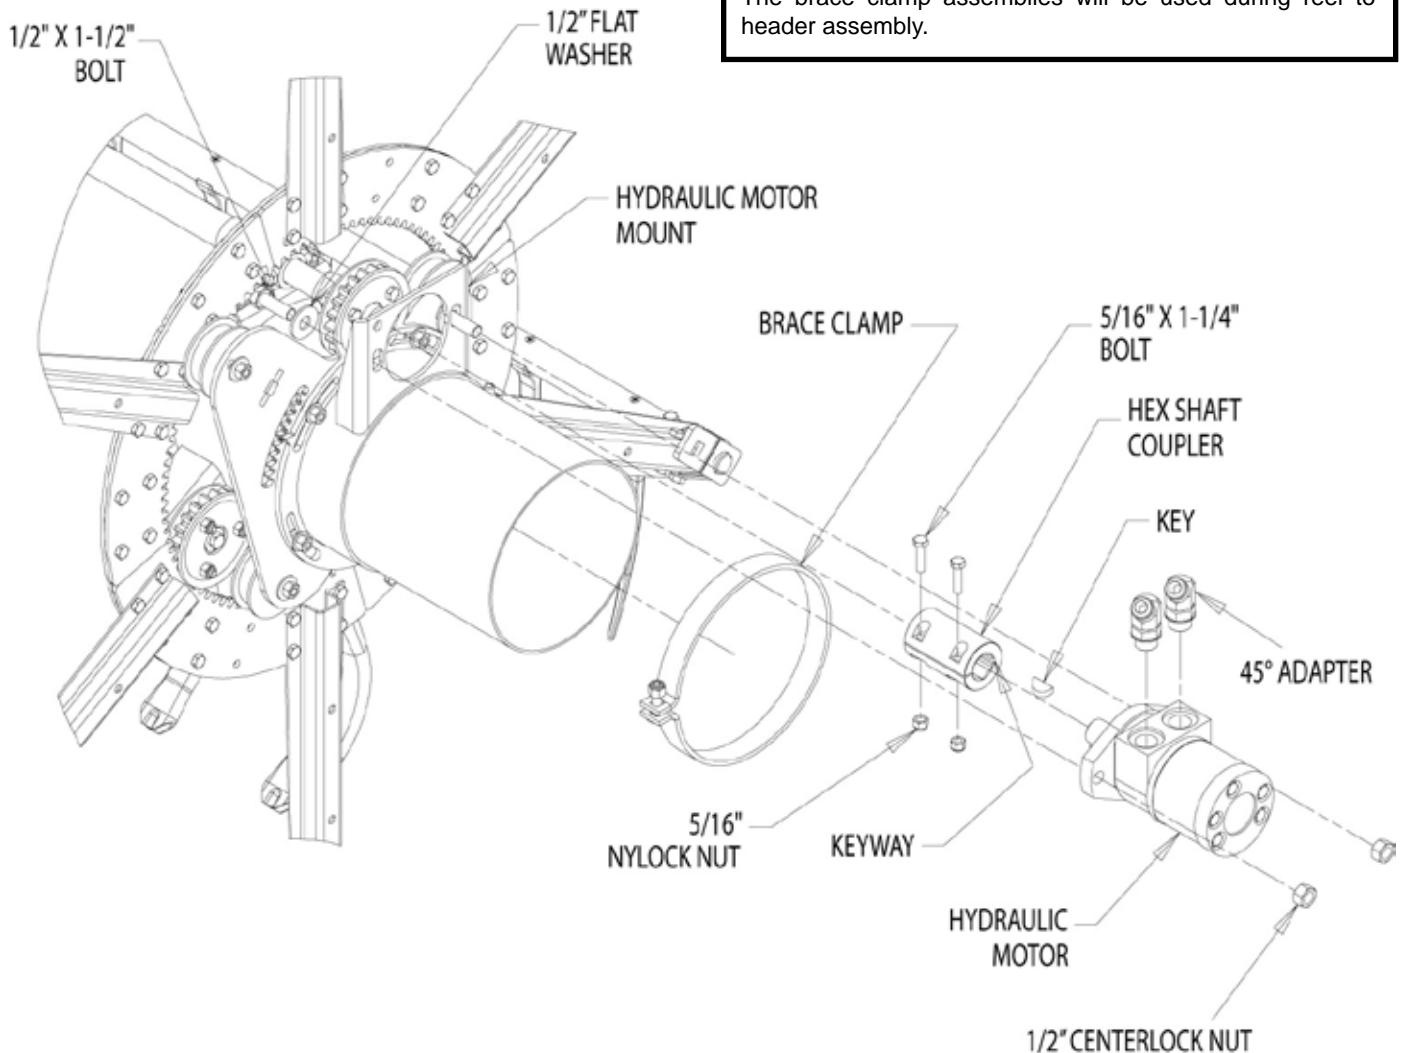

Figure 21, Hydraulic motor installation
1. Slide the shaft coupler onto the RH end of the reel drive shaft (Figure 21).